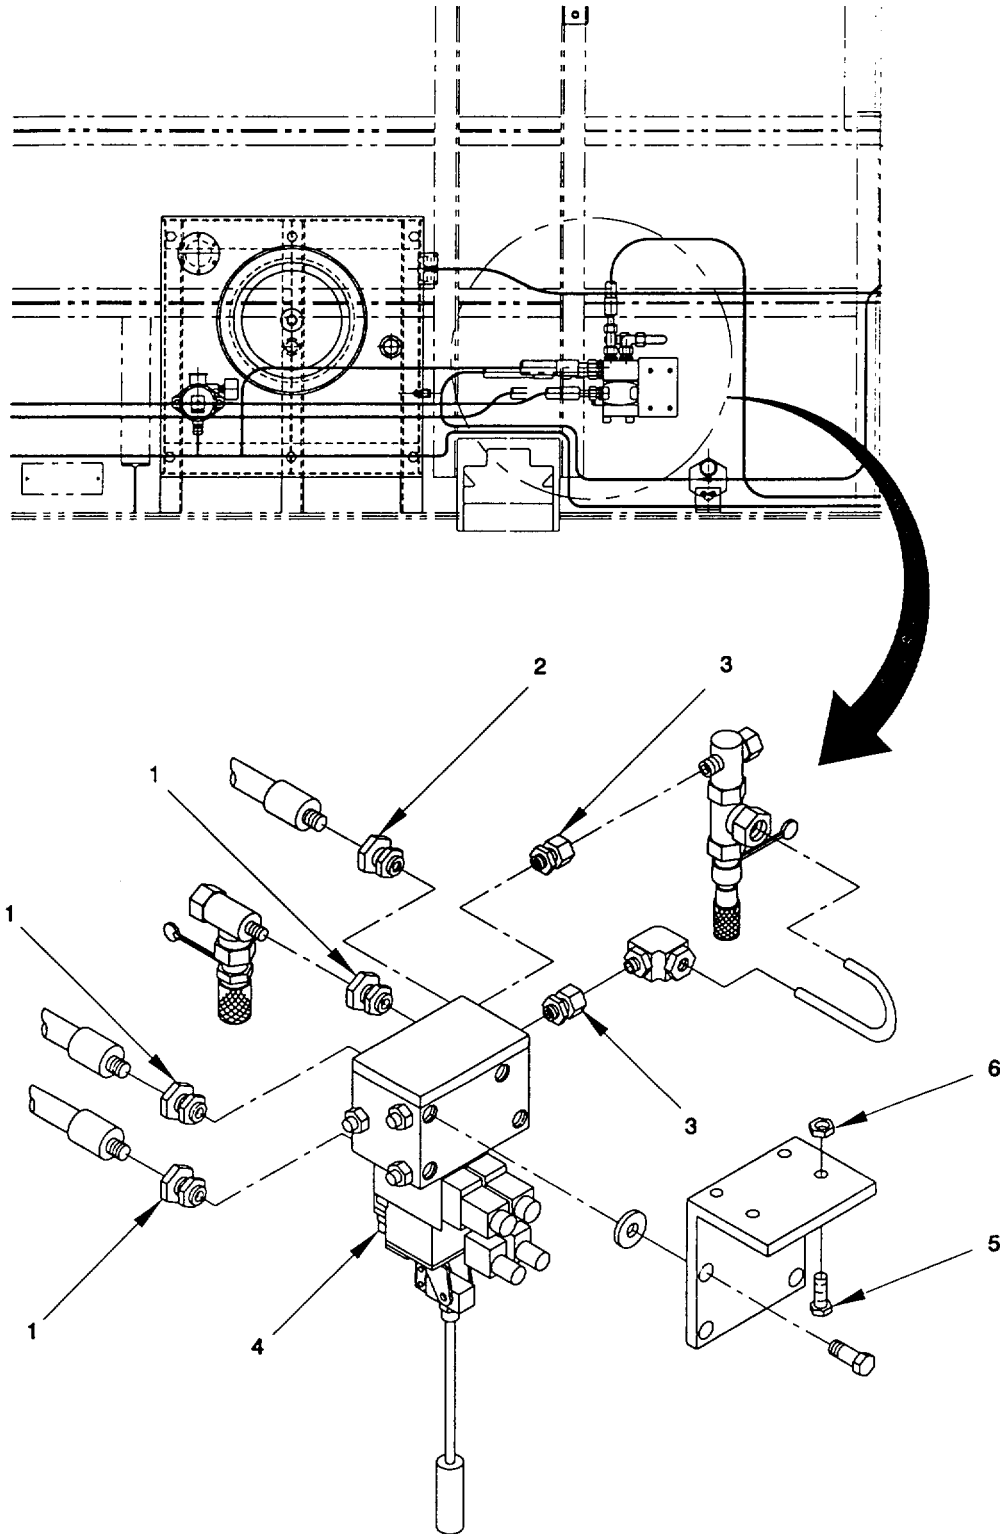

Figure 2-23. Way Valve, Remove/Install.
a. *Remove.* (figure 2-23)
- (1) Before removing any hydraulic piping, tag all connections to Way Valve.
- (2) To disconnect hydraulic lines from the Way Valve, remove two straight thread connectors (1), one nut run swivel tee (2), and two tube end reducers (3) from the Way Valve (4). Protect open hose ends and ports on the Way Valve from contamination.
- (2) Remove four capscrews (5), four self locking nuts (6) and collect Way Valve (4).
b. *Install.* (figure 2-23)
- (1) Align Way Valve (4) with mounting holes and install four capscrews (5) and four self-locking nuts (6).
- (2) Connect two tube end reducers (3), one nut run swivel tee (2) and two straight connectors (1) to Way Valve (4).